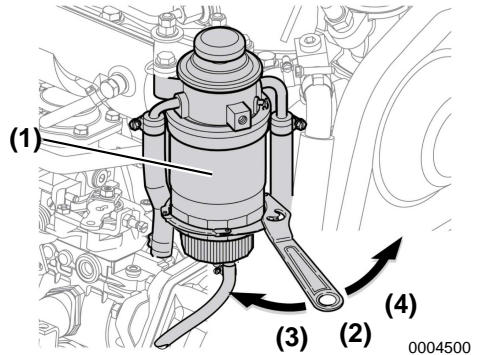

Figure 14
6. Remove the filter housing (**Figure 14, (1)**) with a filter wrench (**Figure 14, (2)**).